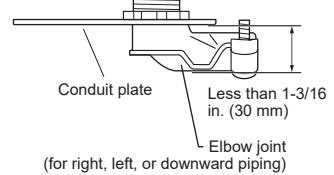

Fig. 2
- 5) Attach conduit pipe (for rear piping) / elbow joint (for right, left, or downward piping) to conduit plate with lock nut. The thread of the installed conduit pipe / elbow joint appearing inside should be less than 3/8 in. (10 mm). (Fig. 1) Elbow joint should appear less than 1-3/16 in. (30 mm) outside. (Fig. 2)